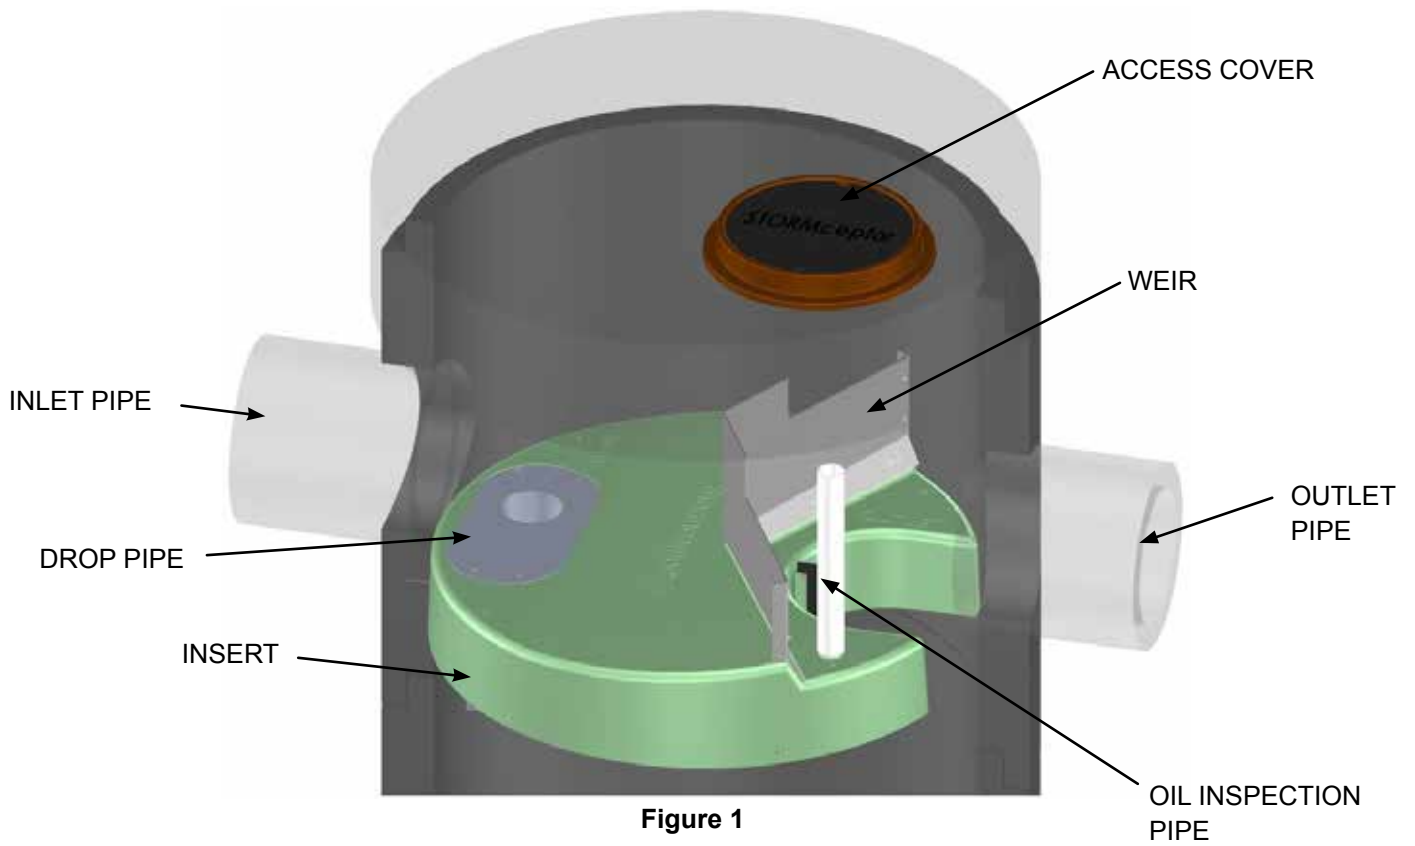

Figure 1
- **Refer to components identified in Figures 1 and 2 to understand the Stormceptor EF operation.**